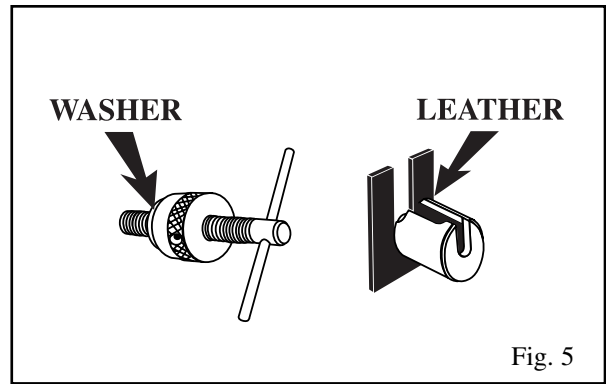

Fig. 5
5. We have supplied one piece of leather for the NP-4B to be used between the bottom edge of the cup and the door or painted surface. Also, we are supplying one chrome washer for the NP-4B to rest against the bearing to make sure you are always riding the bearing surface. See Fig. 5.